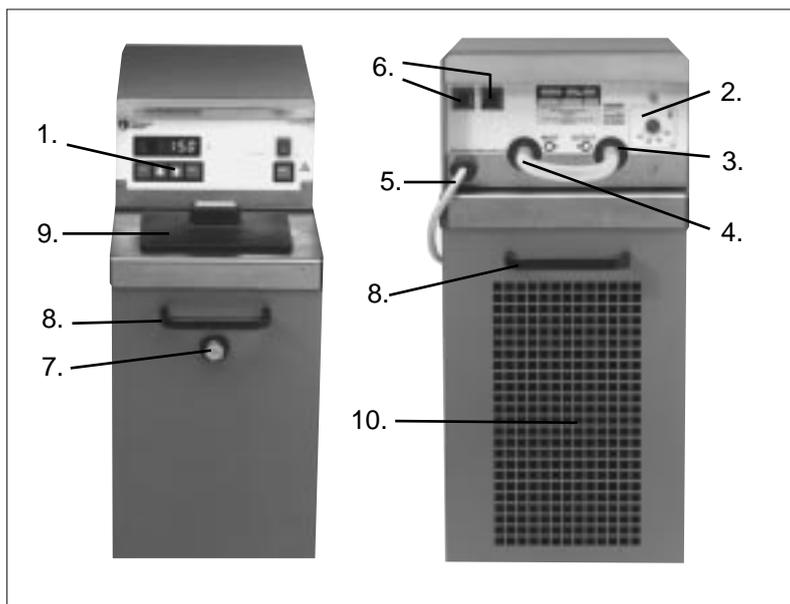

Fig. 1. Front and rear view of MultiTemp III.
1. Connect the inlet and outlet tubing to the nozzles on the rear of the circulator (Fig. 1).
liquid pour into a large vessel using hydrostatic pressure. The bath contains 3 litres of liquid, plus the volume in tubing and connected equipment. The last millilitres can be removed by opening the screw on the front of the unit, (see Fig. 1).